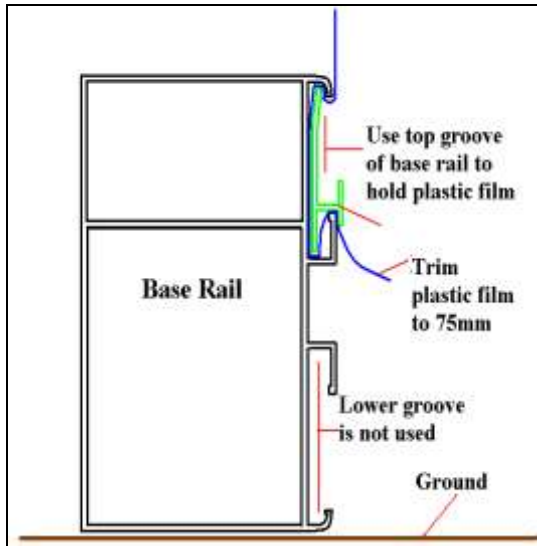

Fig 2
- Now move to the side base rails. Begin in the centre & start inserting the white locking strip whilst tensioning the plastic film. Work toward each bottom corner until fastened (see fig 2).